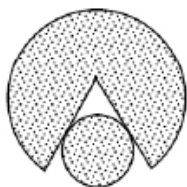

Figure 4: Enlarging Backer Rod by “Hot-Dogging”
2. Increase the size of a standard backer rod by splicing it open and inserting a smaller diameter rod – a practice known as “hot-dogging” (see Figure 4).